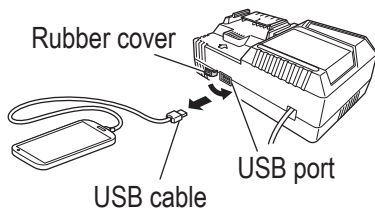

Fig. 24
- Unplug the power cord from the electrical outlet. (Fig. 24)